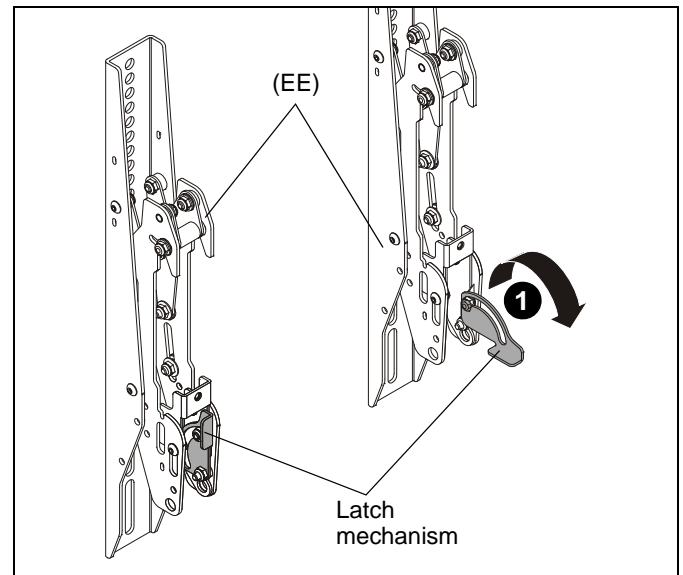

Figure 5
1. Lower the latch mechanism on each interface bracket (DD). (See Figure 5)
- Ensure that the latch mechanisms on interface brackets (DD) are already lowered. (See Figure 5)